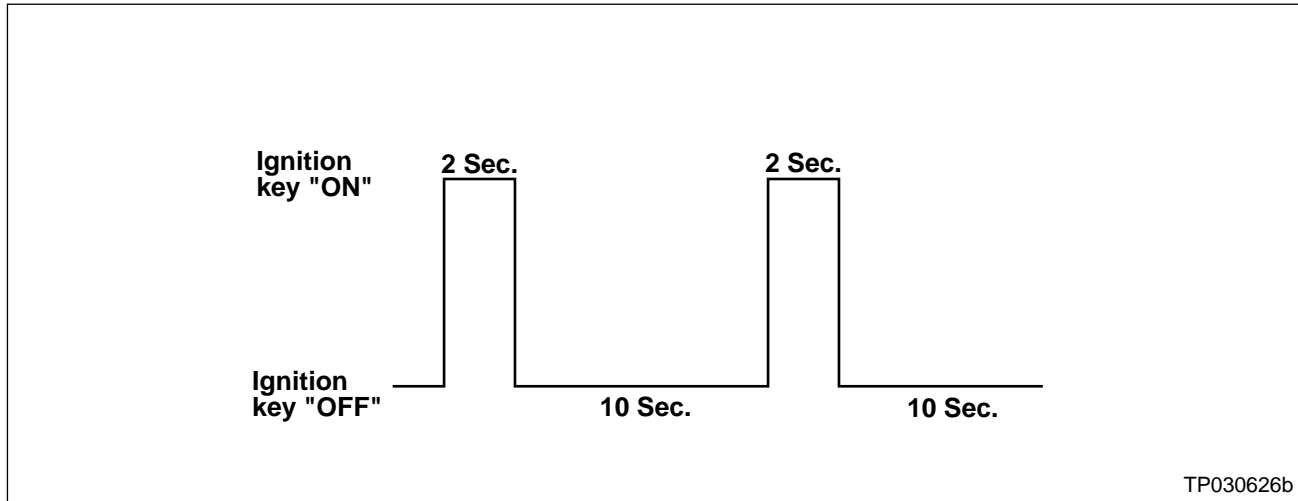

Figure 16
- b. Turn the ignition "OFF" again for 10 seconds (see Figure 16).